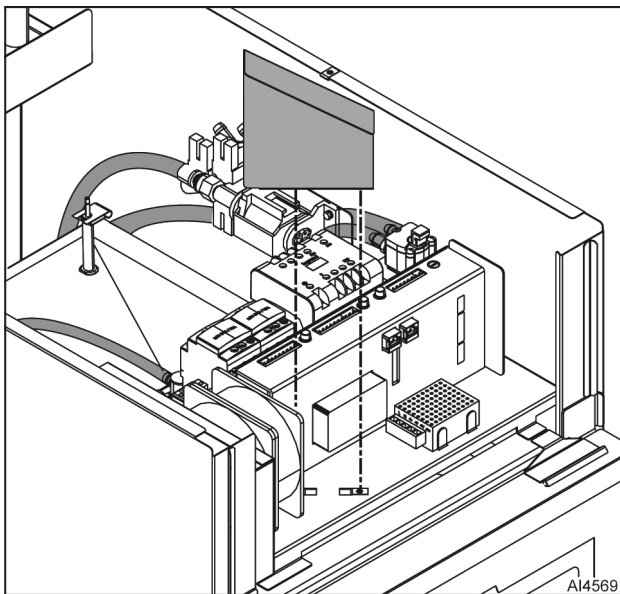

Fig. 16
4. Remove fasteners and fan deflector (Fig. 16) from electronic mounting plate.